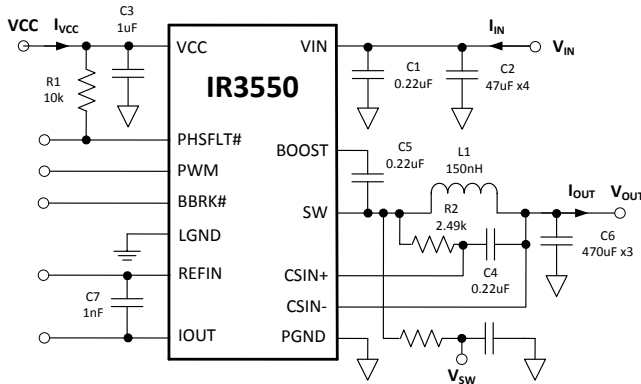

Figure 32: IR3550 Power Loss Measurement
Circuit of Figure 32, $V_{IN}=12V$, $V_{OUT}=1.2V$, $f_{SW} = 400kHz$, $L=150nH$ ($0.29m\Omega$), $V_{CC}=7V$, $T_{AMBIENT} = 25^{\circ}C$, no heat sink, no air flow, 8-layer PCB board of 3.7" (L) x 2.6" (W), no PWM controller loss, no inductor loss, unless specified otherwise.
Circuit of Figure 32, $V_{IN}=12V$, $V_{OUT}=1.2V$, $f_{SW} = 400kHz$, $L=150nH$ (0.29mΩ), $V_{CC}=7V$, $T_{AMBIENT} = 25^{\circ}C$, no heat sink, no air flow, 8-layer PCB board of 3.7" (L) x 2.6" (W), no PWM controller loss, no inductor loss, unless specified otherwise.
The single-phase IR3550 efficiency and power loss measurement circuit is shown in Figure 32.